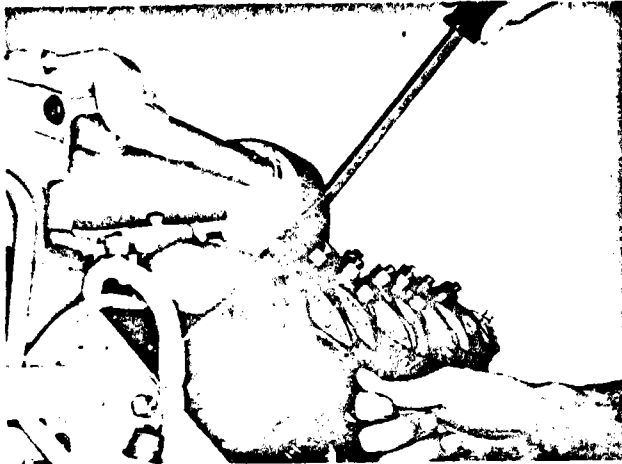

Fig. 2-34, (V11916). Adjusting valves
1. Loosen the locknut and back off the adjusting screw. Insert a feeler gauge between the rocker lever and the top of the crosshead. Valve clearances are shown in Table 2-9. Turn the screw down until the lever just touches the gauge and lock the adjusting screw in this position with the locknut. Fig. 2-34. Torque the locknut to the values indicated in Table 2-7; note Step 2 under "Injector Plunger Adjustment".